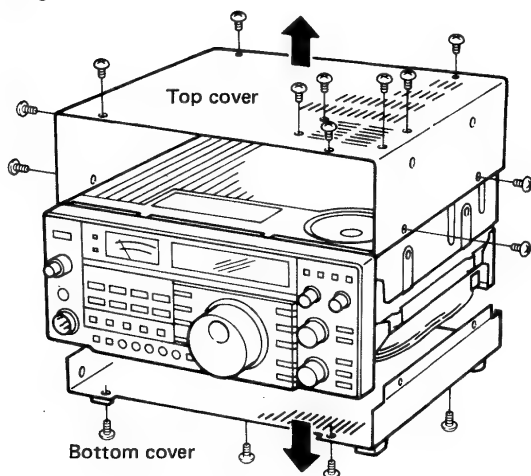

Fig. 1
- 1) To remove top and bottom covers, unscrew 17 screws. (Fig. 1)